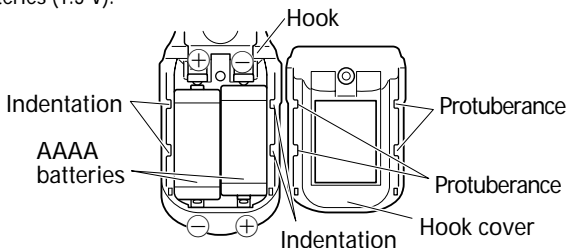

Fig. 9
- (2) Remove the old batteries and insert the new batteries. Align with the hook indications and position the plus (+) and minus (-) terminals correctly. (Fig. 9)